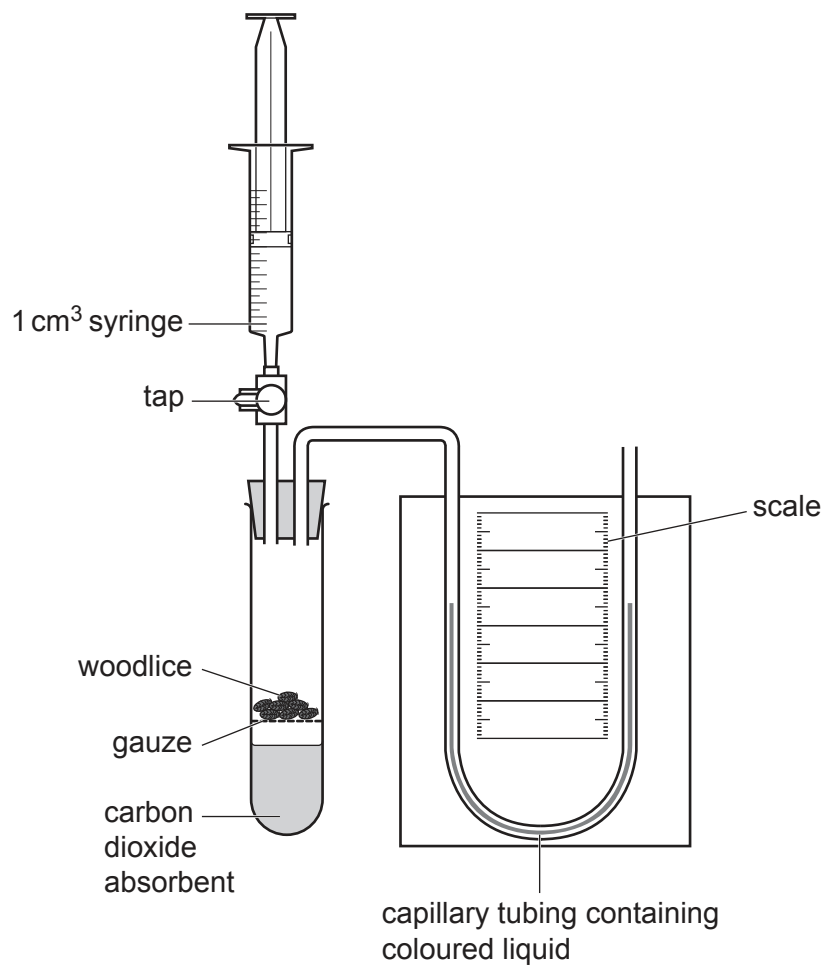

Fig. 1.2
Fig. 1.2 shows the respirometer that the students used.
- (ii) Each 1 cm length of the capillary tubing containing coloured liquid in Fig. 1.2 has a volume of 10 mm³.